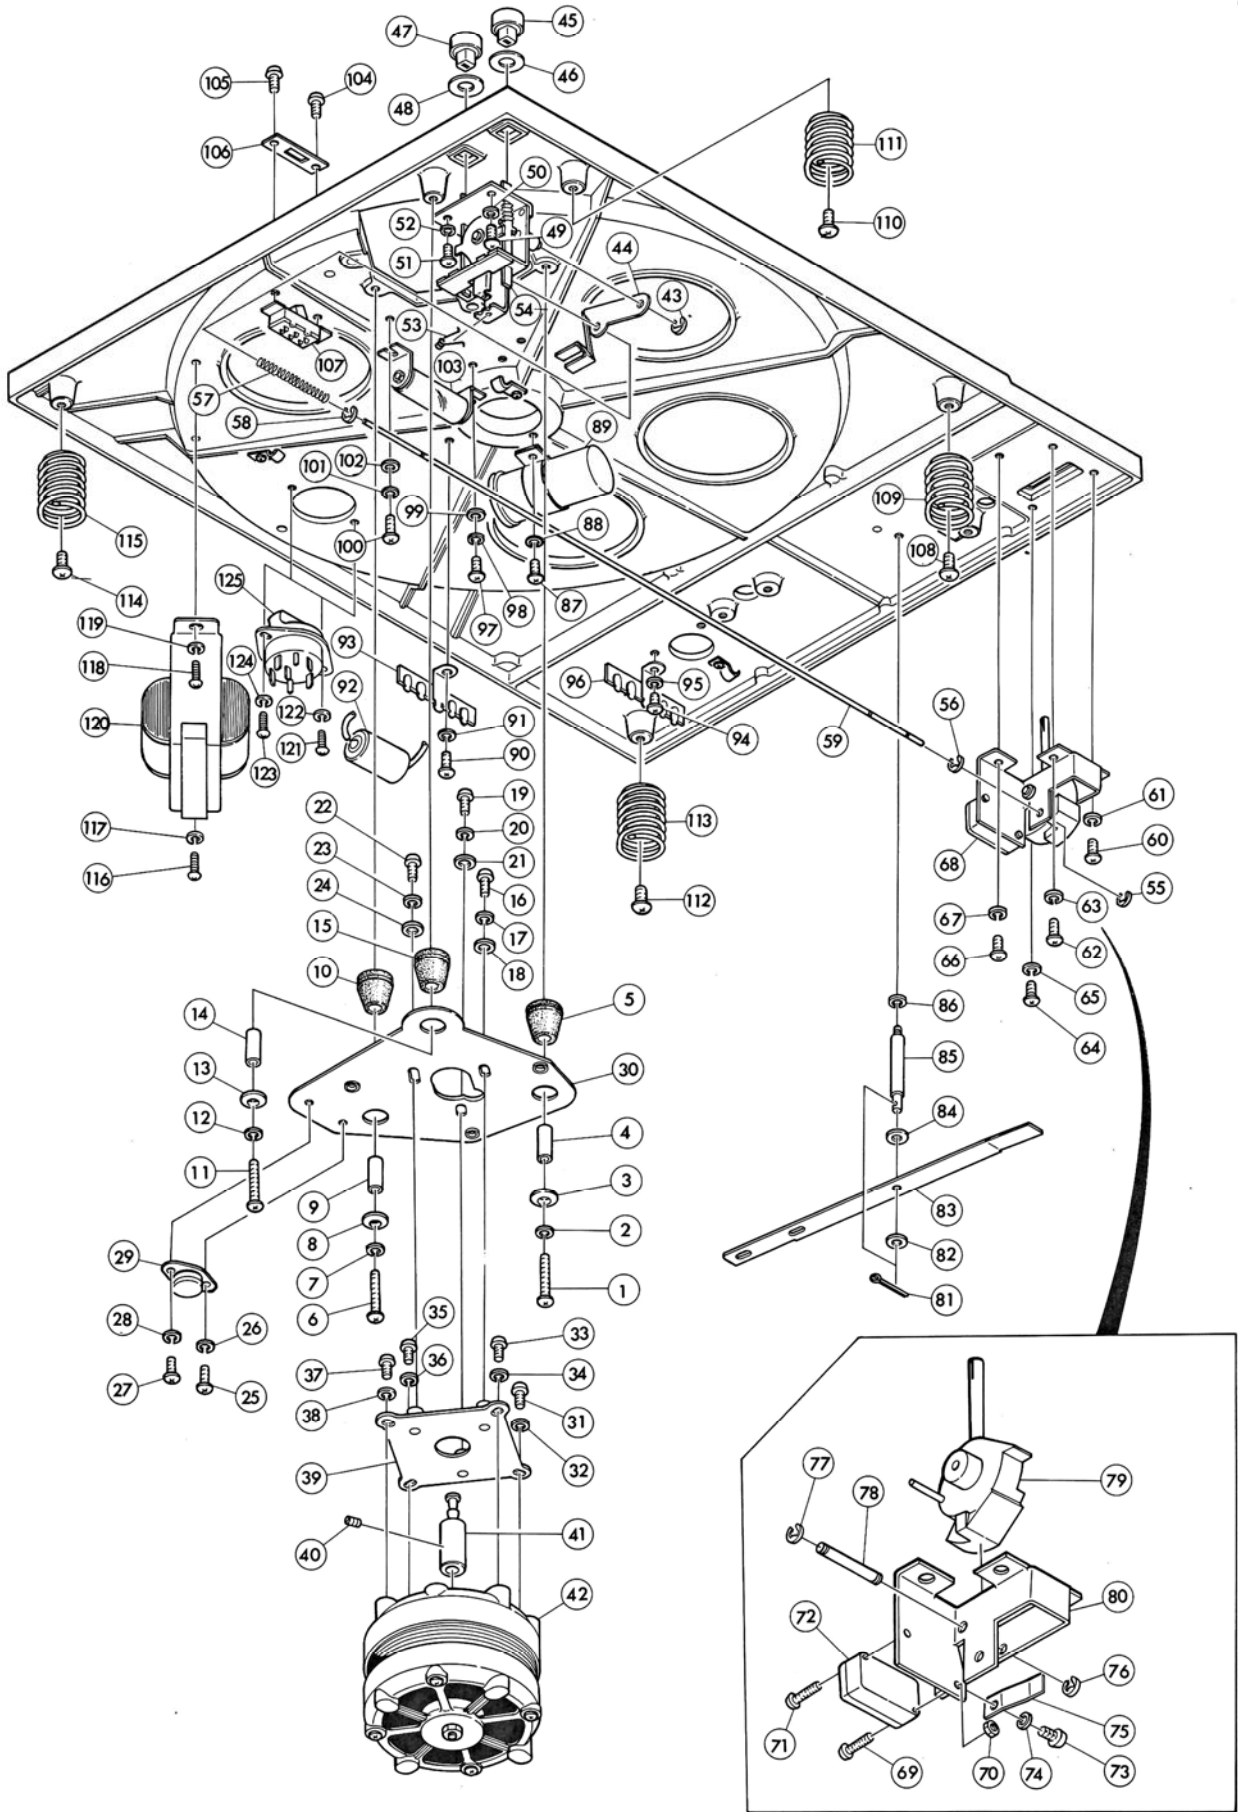

Fig. 6-3
6-3. Exploded view (3) and parts list (See Fig. 6-3)